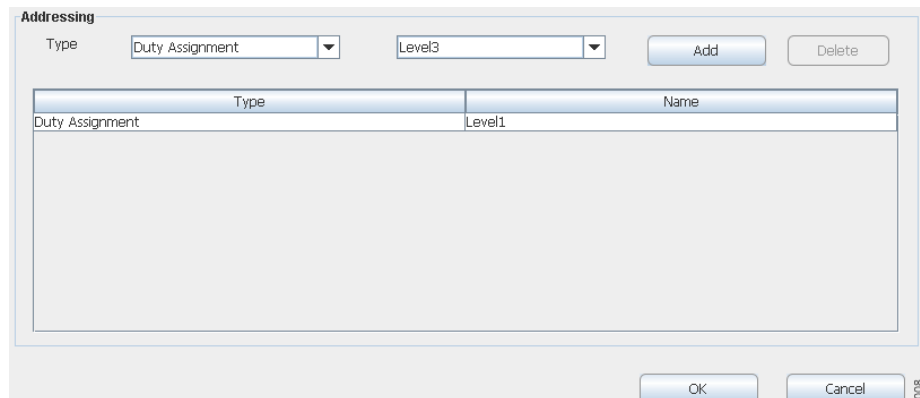

Figure 50. Destinations are taken from assigned users at level 1 in Duty Assignment
- 3 Click "Add" to add the addressing type. See figure 50 on page 47.